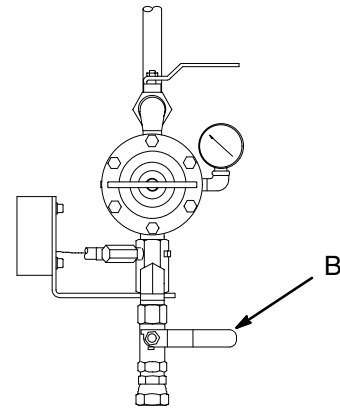

Fig. 4
6. Fig. 4. Close the bleed-type master accessory air valve (B).